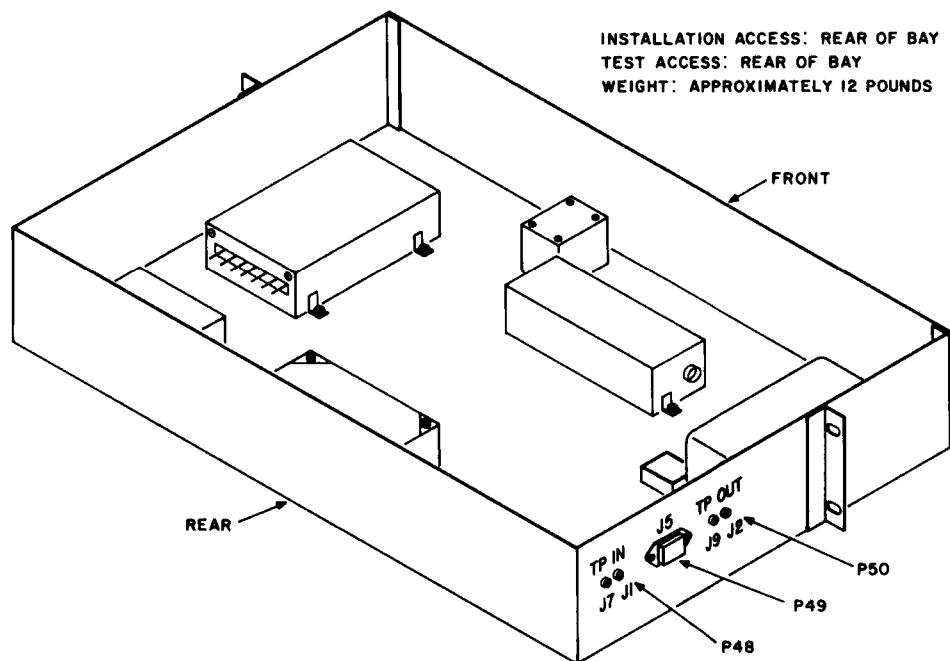

Fig. 5—512-kHz Regulator J68877BA
- 2 Remove P48, P49, and P50 from the connectors on 512-kHz regulator J68877BA shown in Fig. 5.
6	Apply a 512-kHz test signal at -53.7 dBm to IN jack J1 on the J68877BA panel (Fig. 5).